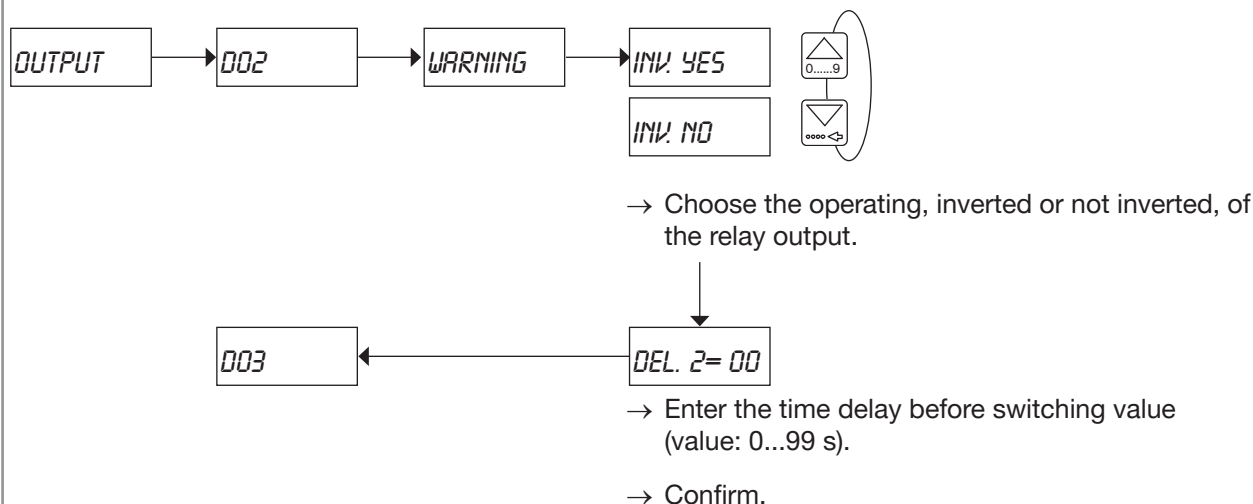

Fig. 38: Configuration of the DO2 or DO3 relay output to indicate the generation of a warning message
- to switch a load when a warning message is generated by the device. See Fig. 38.